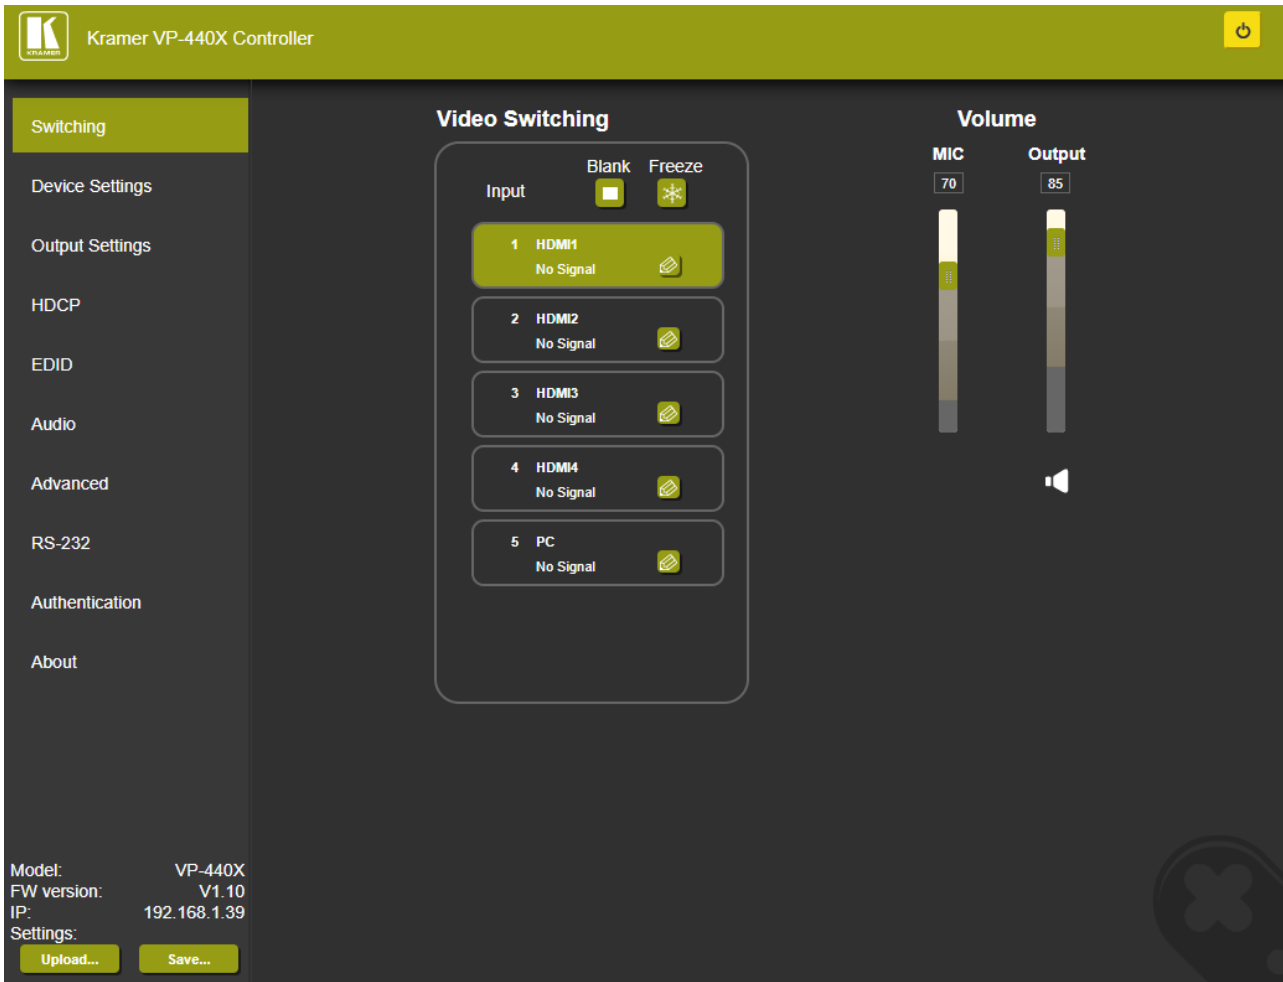

Figure 9: Embedded Webpage with Navigation List on Left
2. In the Navigation pane, click **Switching**. The Switching page opens (Figure 9).
1. In the navigation pane click **Switching**. The Switching page opens (Figure 9).